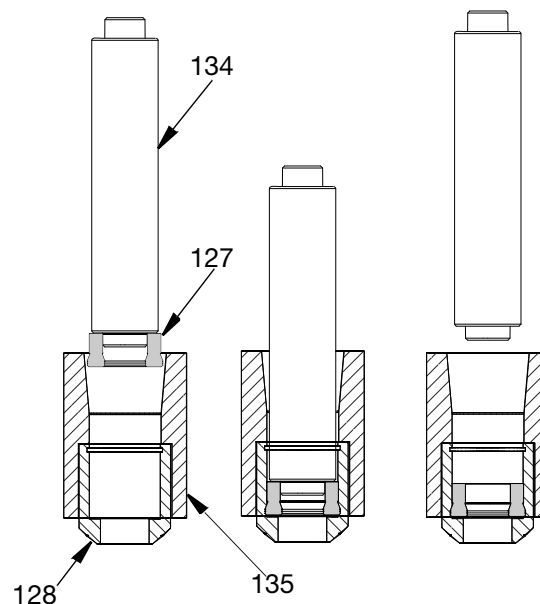

FIG. 17
- Using the smaller heel side of the seal insertion tool (134), or a suitable size socket or dowel, press the seal to the bottom of the poppet inlet check valve (128). See FIG. 17.